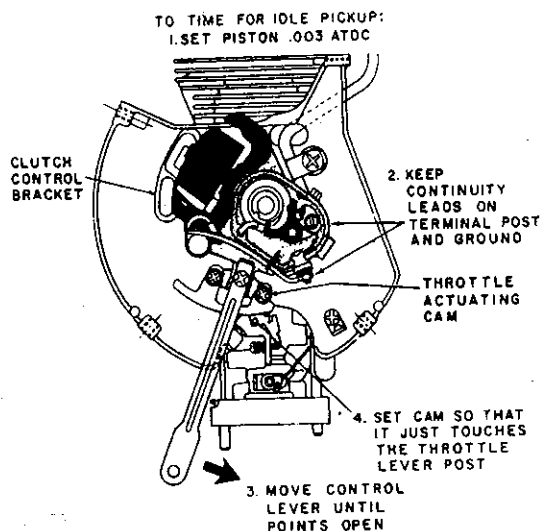

Figure 31
- E. To determine the idle-speed throttle cam pickup point, proceed as follows: (See Figure 31.)